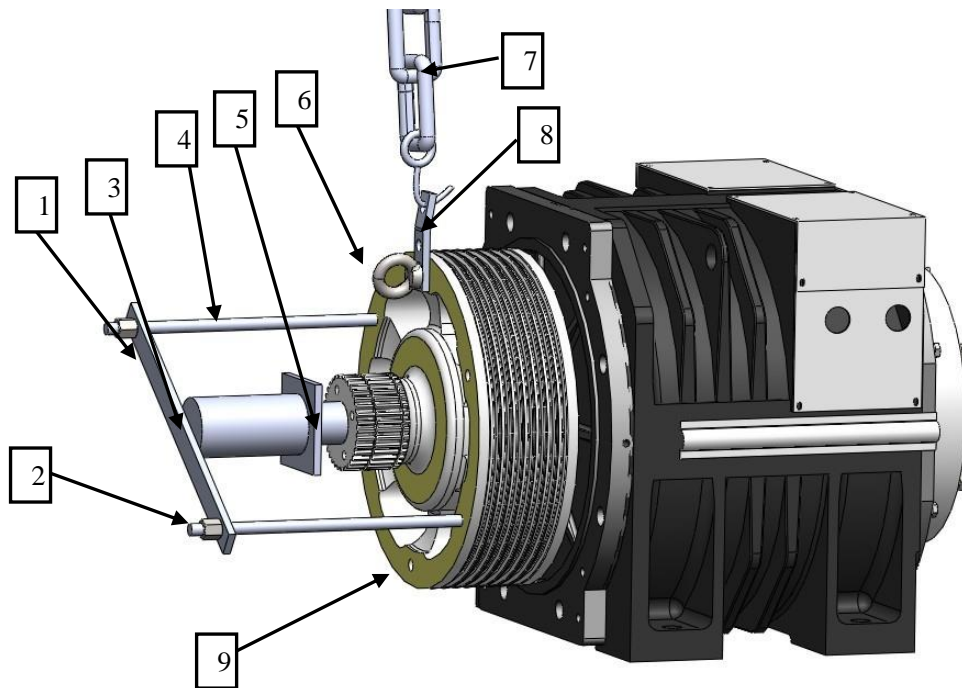

Figure 57: Sheave removal
5. Hoist lightly the sheave with the hoisting equipment. See Figure 57 and Table 9.
6. Install 2 threaded rods M16x500 (item 4) into the M16 hole of sheave opposite each other.
7. Put the stow-stick (item 5) into the center-hole of the sheave, install the Underprop-plate (item 1) through the threaded rods, and install the hydraulic jack, and tighten the thick nuts M16 (item 2), make sure the hydraulic jack is steady.